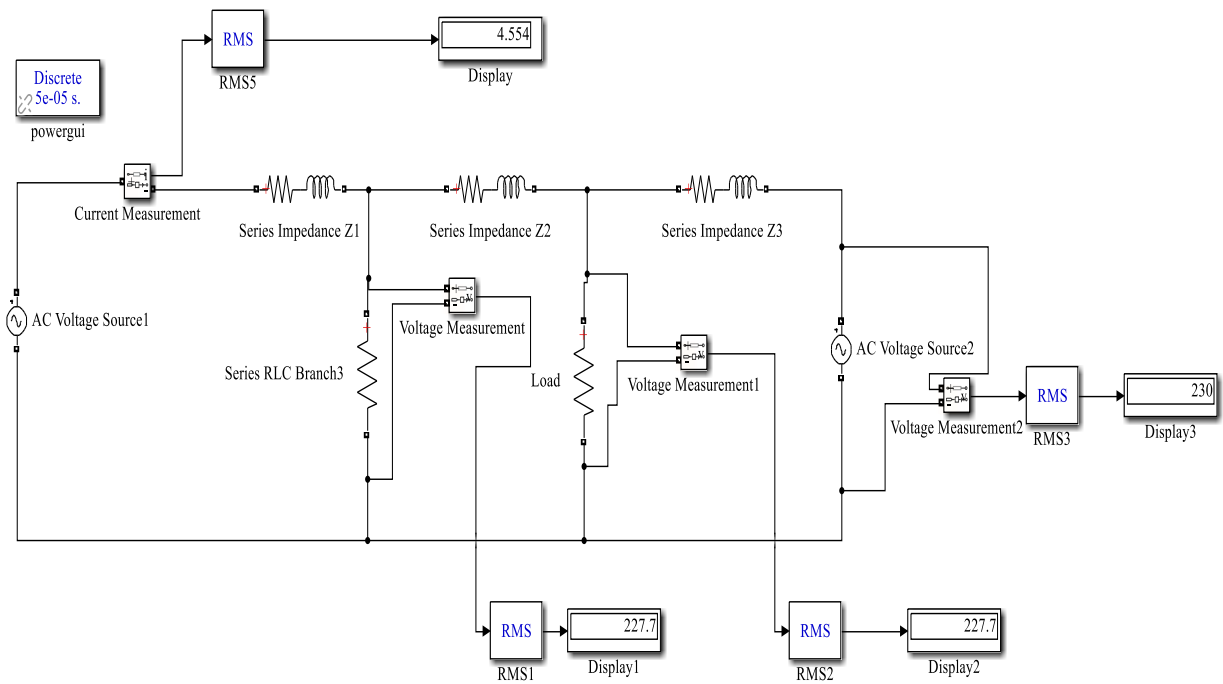

Fig.2 Ring Distribution system
1. Build the SIMULINK model as shown in the figure2.